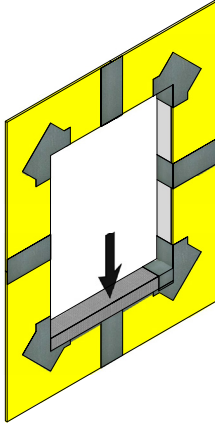

Figure 11
8. Cut Sheathing Fabric to desired size. Place the Sheathing Fabric into the wet Finestop RA/RS/VB. Lap mesh 63.5 mm (2 1/2") minimum at intersections. (See Figure 11)
9. Apply additional Finestop RA/RS/VB onto the Sheathing Fabric to embed. If necessary, apply a second coat. (See Figure 11)